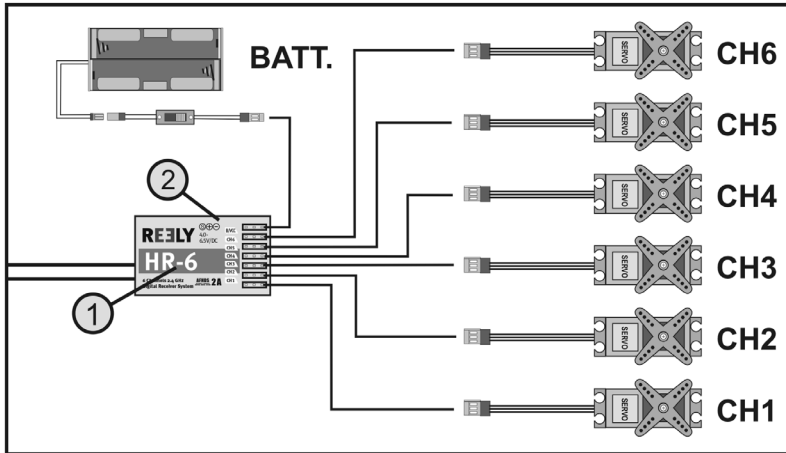

Figure 8
On its right hand side, the receiver (see figure 8, item 1) offers the option of connecting up to 6 servos with JR or Futaba plug connectors.
The receiver has an LED display that serves mainly as an indicator for the receiver condition on one side (see figure 8, item 2).